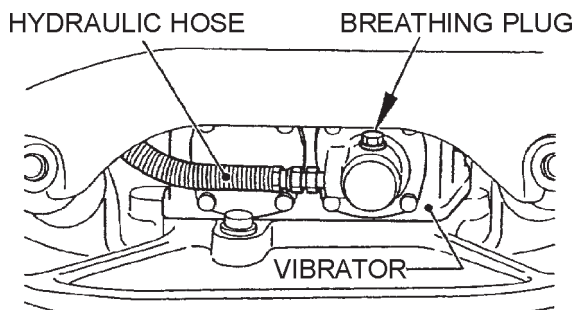

Figure 22. Hydraulic Hose
1. After removing plug cap of hand pump (Figure 22), remove plug of breather (24 mm wrench) and disconnect vibrator side of hydraulic hose (Figure 22) at vibrator cylinder. With travel lever placed in the **FORWARD** position, drain hydraulic oil in the pump.